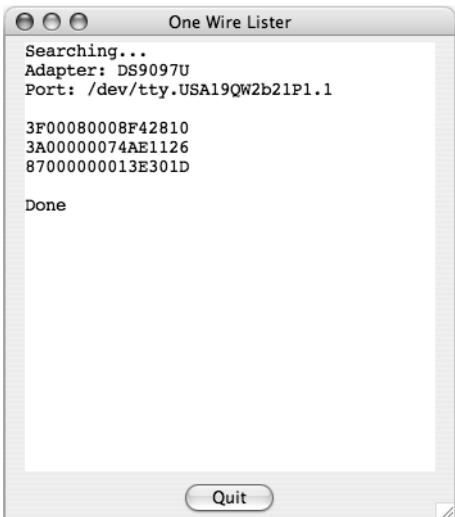

FIGURE 5-15: OneWireLister output.
6. OneWireLister will now search for all the 1-Wire devices connected to your 1-Wire Serial Adapter. If all goes well, you should see one or more devices found. If not, go back and check your wiring and that you have your device plugged in. See Figure 5-15 for an example.